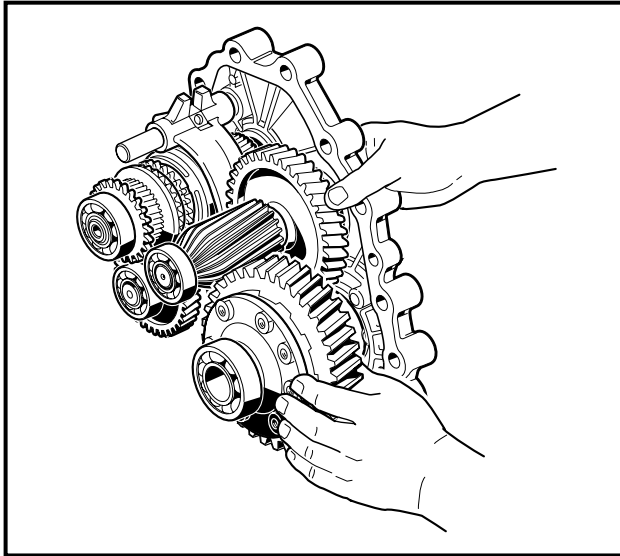

Figure 7-6 Loosen Gears
7. Turn the case section containing the gearing on edge as shown (**Figure 7-6, Page 7-5**). While holding it in this position, gently rock all the gear assemblies to slightly loosen them in their seating. **See following CAUTION.**